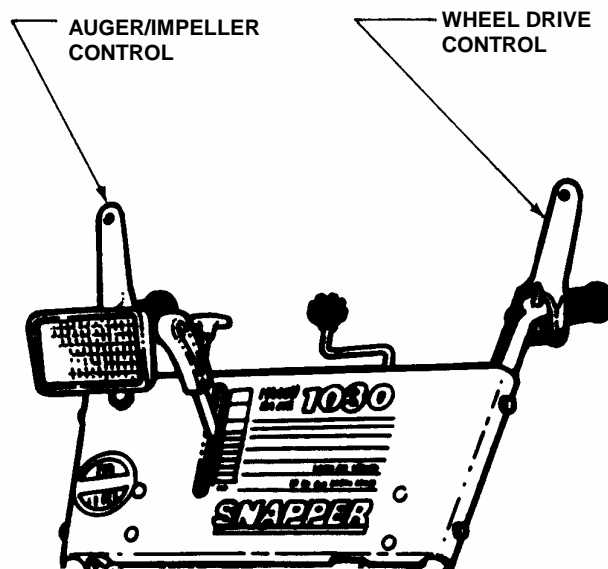

FIGURE 2.6
1. Move auger/impeller control lever against handle to engage auger/impeller. See Figure 2.6.
1. Pull auger/impeller control lever against handle to engage auger/impeller. See Figure 2.6.